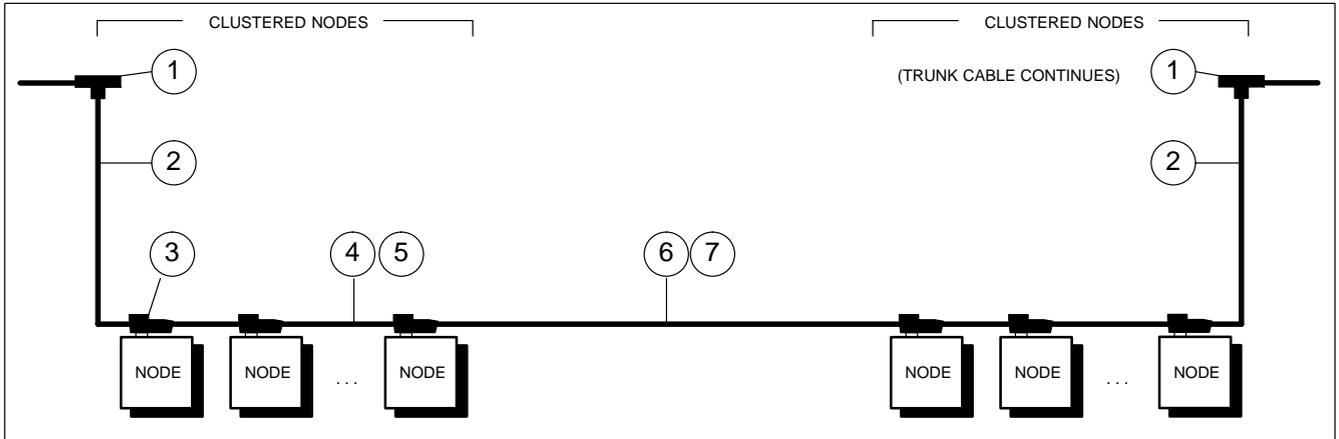
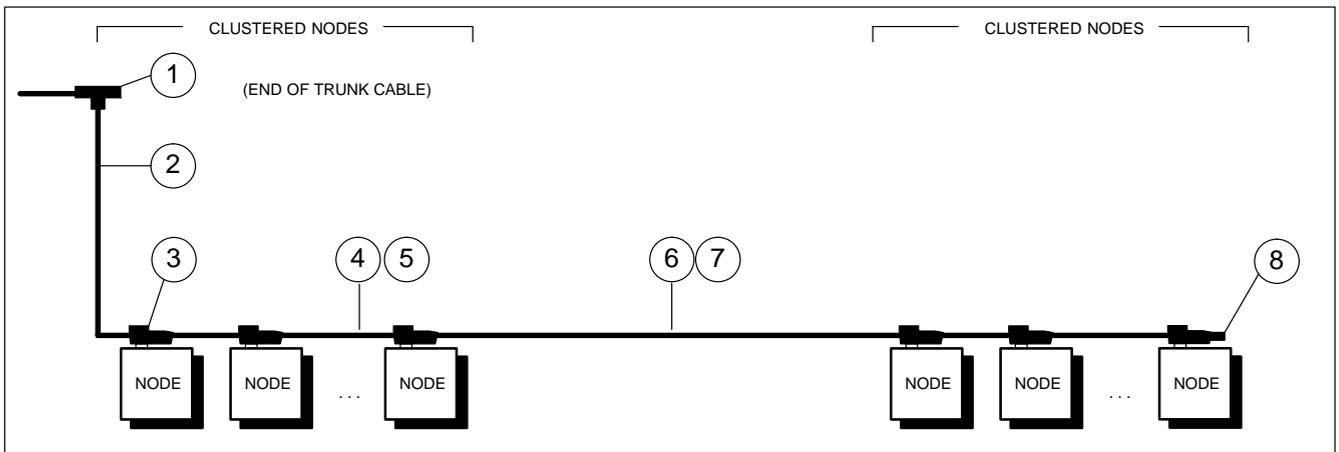
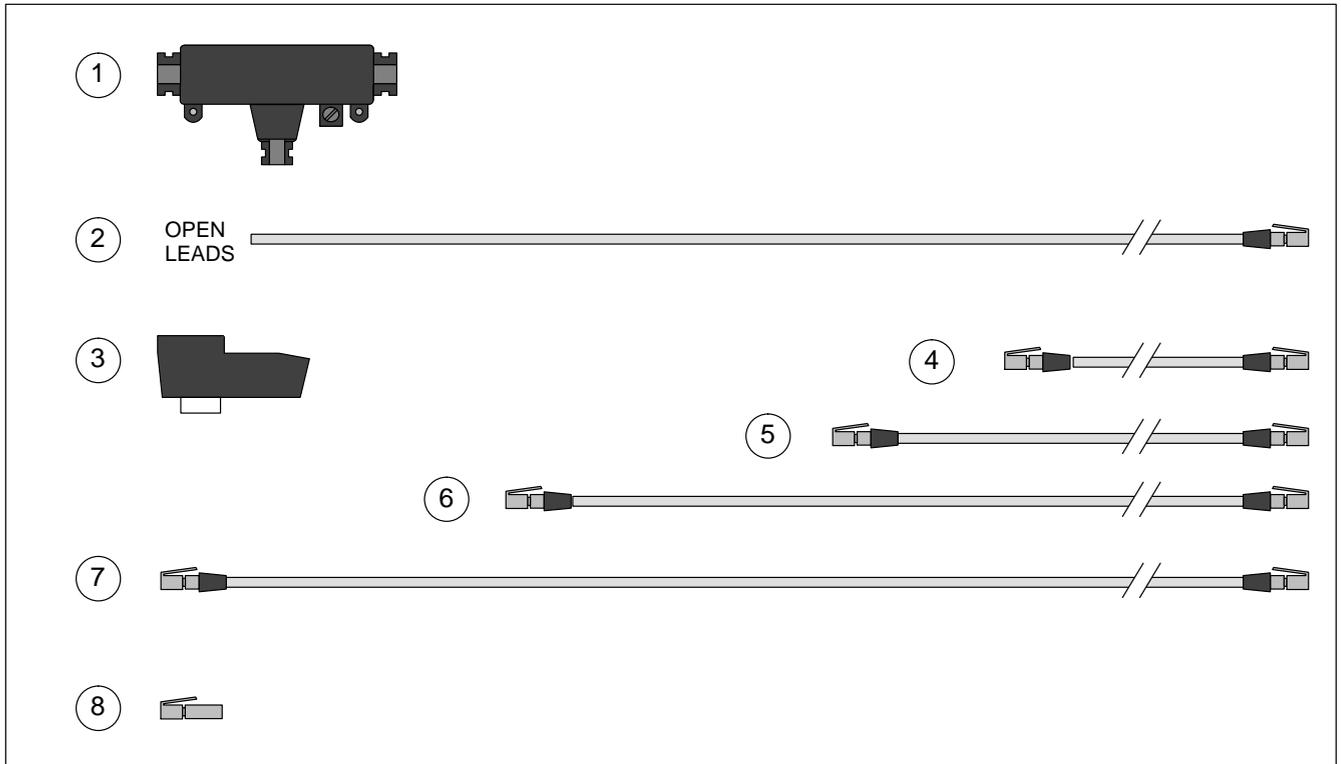

Figure 2 Cluster Configuration: Trunk Cable Continues
Figure 3 Cluster Configuration: End of Trunk Cable
Figure 4 Modbus Plus Cluster Components
- **A. Trunk Cable Continues:** If the trunk cable will continue from the cluster, refer to Figure 2.
- **B. Trunk Cable Ends:** If the trunk cable will end at the cluster, refer to Figure 3.
A. Trunk Cable Continues from Cluster: Figure 2 shows a pair of clusters with the trunk cable continuing from the cluster. In this configuration the last clustered node must return through a drop cable to the next Tap.
B. Trunk Cable Ends at Cluster: Figure 3 shows a pair of clusters with the trunk cable ending at a cluster. This configuration is used at either end of the trunk cable. In this configuration the last clustered node must have a terminator installed. Note that the terminator is installed at the node, and not in the Tap.
Figure 4 illustrates the components used in connecting Modbus Plus node devices in clusters. Refer to Figure 2 and Figure 3 for examples of how the components are used.